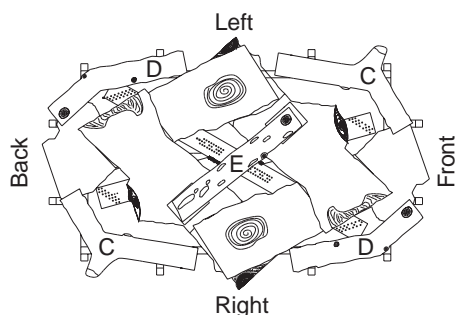

Figure 46 - Installing Twigs "C, D, E" (Top View)
10. Take twigs “C” (shaped like a “Y”) and place them as shown in Figure 46, page 19.
11. Take twigs “D” (bent twig) and place them as shown in Figure 46, page 19.
12. Place twig “E” across the top of logs “B” as shown in Figure 46, page 19.
13. When finished installing the logs, close the glass doors while making certain that the safety door switch is fully depressed by the door frame before securing the four (4) spring loaded latches.